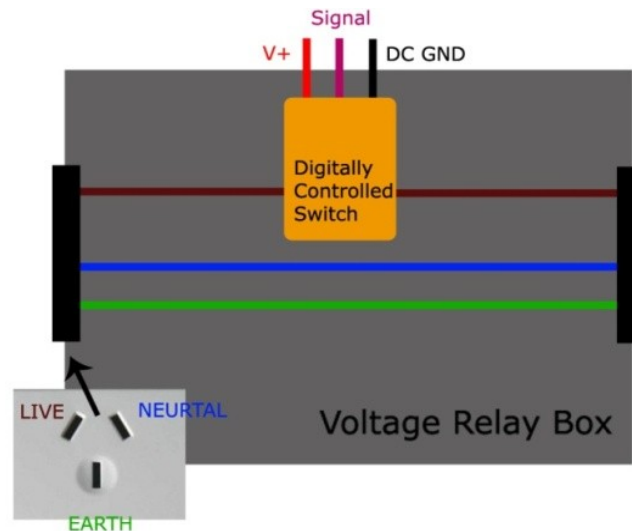

Figure 1 - Relay Box Wiring Diagram
1. Connect 5V and GND the ELVIS, and the signal pin to digital pin 11 of the Arduino. Figure 1 shows the inner working of the voltage relay box. The Active mains wire (brown) of the inlet and outlet are connected via the relay. When the signal wire is high (~5V) they are connected together and current flows, when the signal is low they are not connected and so the circuit is open. The Neutral (blue) and Earth (green with yellow stripe) wires are connected straight through. The Earth is also connected to the case for safety.